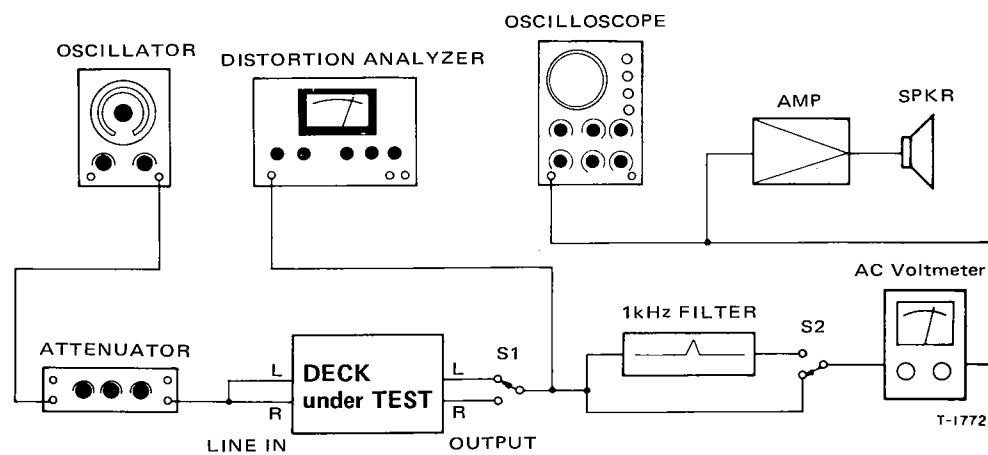

Fig. 5-1 Basic test setup
18. Erase efficiency	<ul style="list-style-type: none"> Connection is same as in Fig. 5-1, but engage 1-kHz filter. Record a 1-kHz signal. Rewind tape to midpoint of recorded portion. Record a "no signal" portion. Find the difference between the 1-kHz portion and the "no-signal" portion.
19. REC MUTE function	<ul style="list-style-type: none"> Connection: Fig. 5-1, but engage 1-kHz filter. Record a 1-kHz signal. Push REC MUTE button for several seconds. Rewind and play the tape. Find the difference between the 1-kHz portion and the "no-signal" portion.
20. Channel separation	<ul style="list-style-type: none"> Connection: Fig. 5-1, but do not connect LINE IN (R), and engage 1-kHz filter. Set the deck to record mode. Find the difference between the 1-kHz recorded portion (L-ch) and the "no signal" portion (R-ch).
21. Adjacent track crosstalk	<ul style="list-style-type: none"> Connection: Fig. 5-1, but do not connect LINE IN (L) and OUTPUT (L). Record a 125-Hz signal on R-ch and note output level. Invert tape and play R-ch track. Check leakage level against the output reference of previously recorded portion.